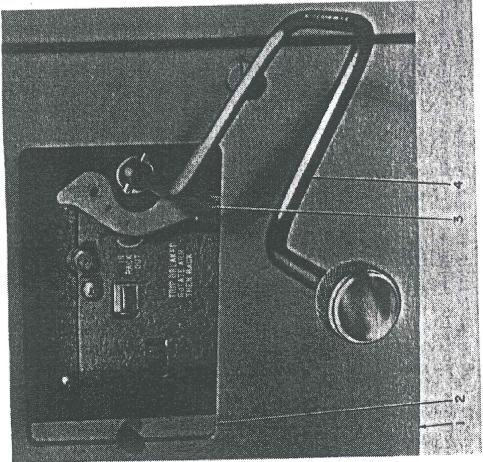

Fig. 3.—Method of Racking Circuit Breaker
Engage racking crank (4, Fig. 3) and push racking unlocking lever (3) to left, then rotate racking crank (4) counterclockwise only until resistance to motion is felt.
To rack circuit breaker to "TEST" position, push extracting unlocking lever (3, Fig. 3) to left, rotate rack-unlocking crank approximately $\frac{1}{4}$ turn clockwise, then release unlocking lever. Continue cranking until racking mechanism automatically stops at "TEST" position.
FOR SAFETY: When racking circuit breaker to "CONNECTED" position, close compartment door (1, Fig. 3) and insert racking crank (4, Fig. 3) through sliding panel (2, Fig. 3).
CIRCUIT BREAKER REMOVAL (See Fig. 3)